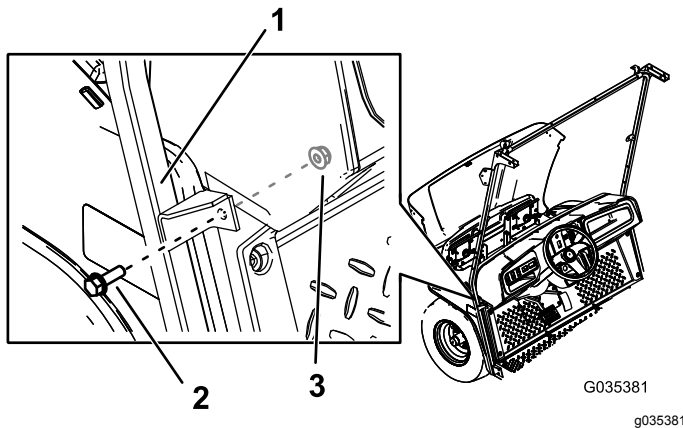

Figure 5
- Secure the middle bracket of the windshield support to the machine using 2 hex-flange bolts (5/16 x 1 inch) and 2 nuts (5/16 inch) in the holes that you drilled (Figure 5).